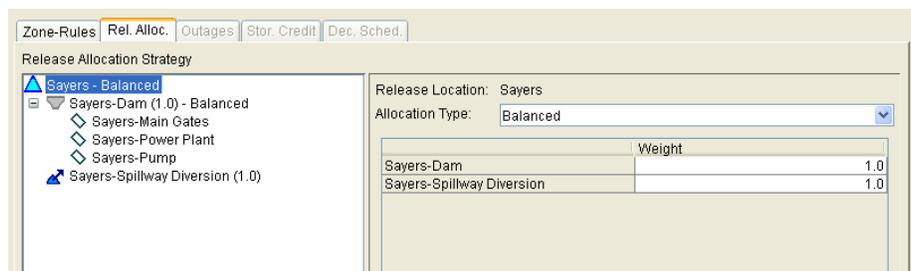
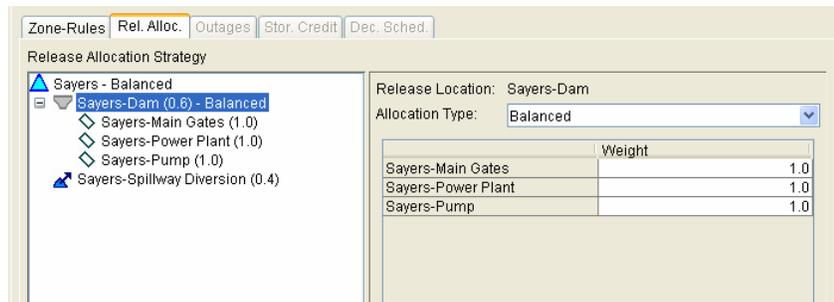

Figure 11.96 Release Allocation Editor - Release Allocation Type for Reservoir is Evenly Balanced between Dam and Diverted Outlet
Figure 11.97 Release Allocation Editor - Release Allocation Type for *Dam is Evenly Balanced* between Three Outlets
2.  The **Release Allocation** tab becomes available (Figure 11.96). From this editor, you can specify the **Allocation Type** and component **Weightings** for the Reservoir, the Dam(s), and the Diverted Outlet(s).
- Balanced:** As previously shown in Figure 11.96, the *Reservoir's* Allocation Type is Balanced, and the total release from the reservoir is evenly weighted (i.e., 1:1 ratio) between the Dam (1.0) and the Diverted Outlet (1.0). A Balanced allocation type can also be specified as being unevenly weighted (e.g., a release distribution of 60% through the Dam and 40% through the Diverted Outlet) by entering the appropriate weights (0.60 and 0.40). The release allocation for the reservoir's *Dam outlets* (Main Gates, Power Plant, and Pump) can be *evenly balanced* (as shown in Figure 11.97) or *unevenly balanced* using weighting factors for a desired distribution.